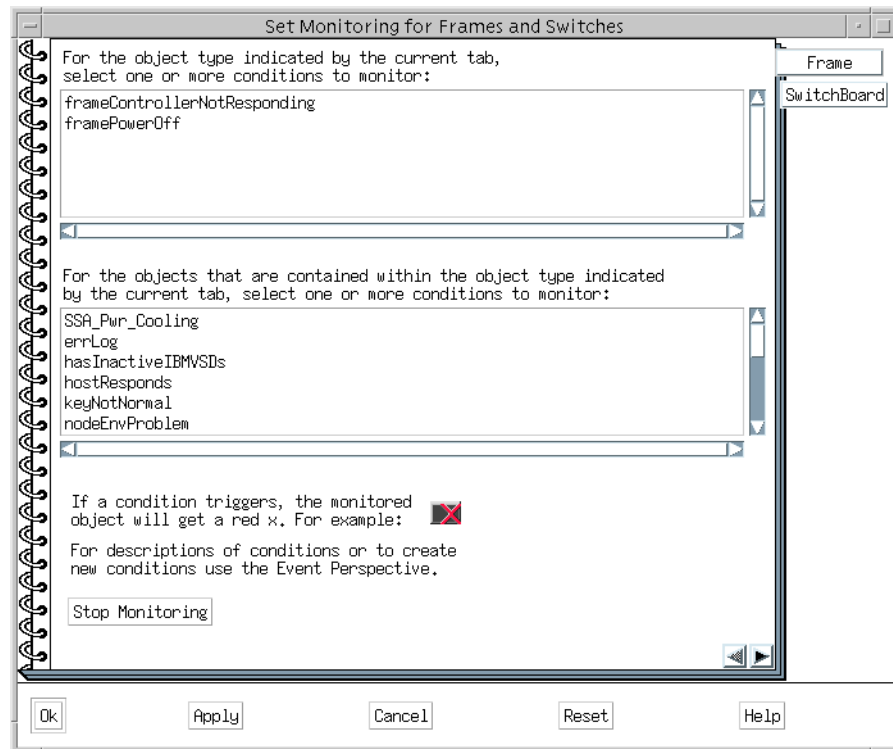

Figure 56. Frame page of Set Monitoring notebook
3. You will see the Set Monitoring for Frames and Switches notebook as shown in Figure 56 on page 252.
To stop monitoring, click **Stop Monitoring** in the Set Monitoring for Frames and Switches notebook as shown in Figure 56 on page 252 or simply terminate the Hardware Perspective.